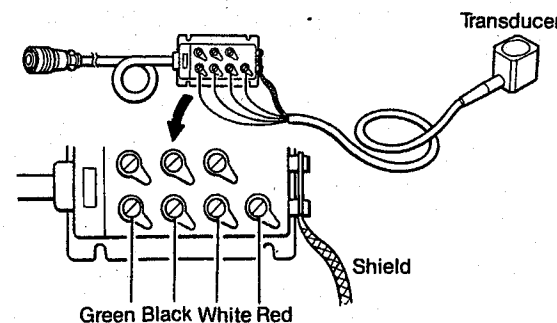

Fig. 3
- 3.2 If a bridge box is used instead of the connector plug, make connections as illustrated in Fig.3.